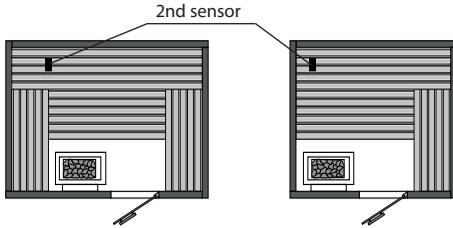

Fig. 22
**Place of installation:** The 2nd sensor (bench sensor) shall be mounted on the ceiling over the rear bench opposite to the sauna heater (see examples on Fig. 22).